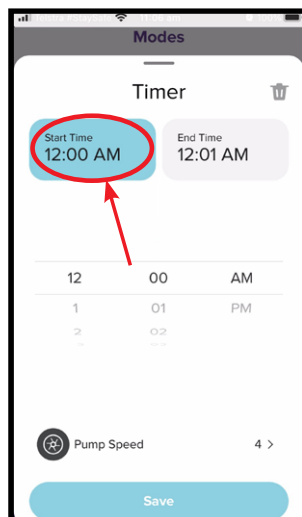

Figure 9.28
- The first time to set will be the start time for your timer. You can see this as the “Start Time” field is highlighted yellow initially (refer Figure 9.28). Consider this as the time you want the system to turn on.